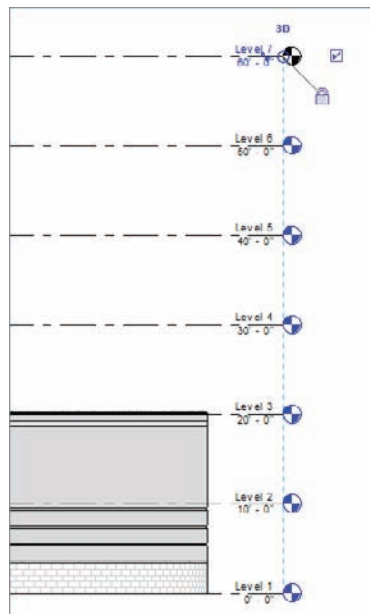

FIGURE 3.8 Levels 1 through 7 are now complete.
8. With the Level command still running, create Levels 4, 5, 6, and 7. Your elevation should now look like Figure 3.8. Also, look at your Project Browser. It should not have any levels other than Levels 1 through 7 and Site. You may also notice that you have new levels under the Ceiling plans category as well.